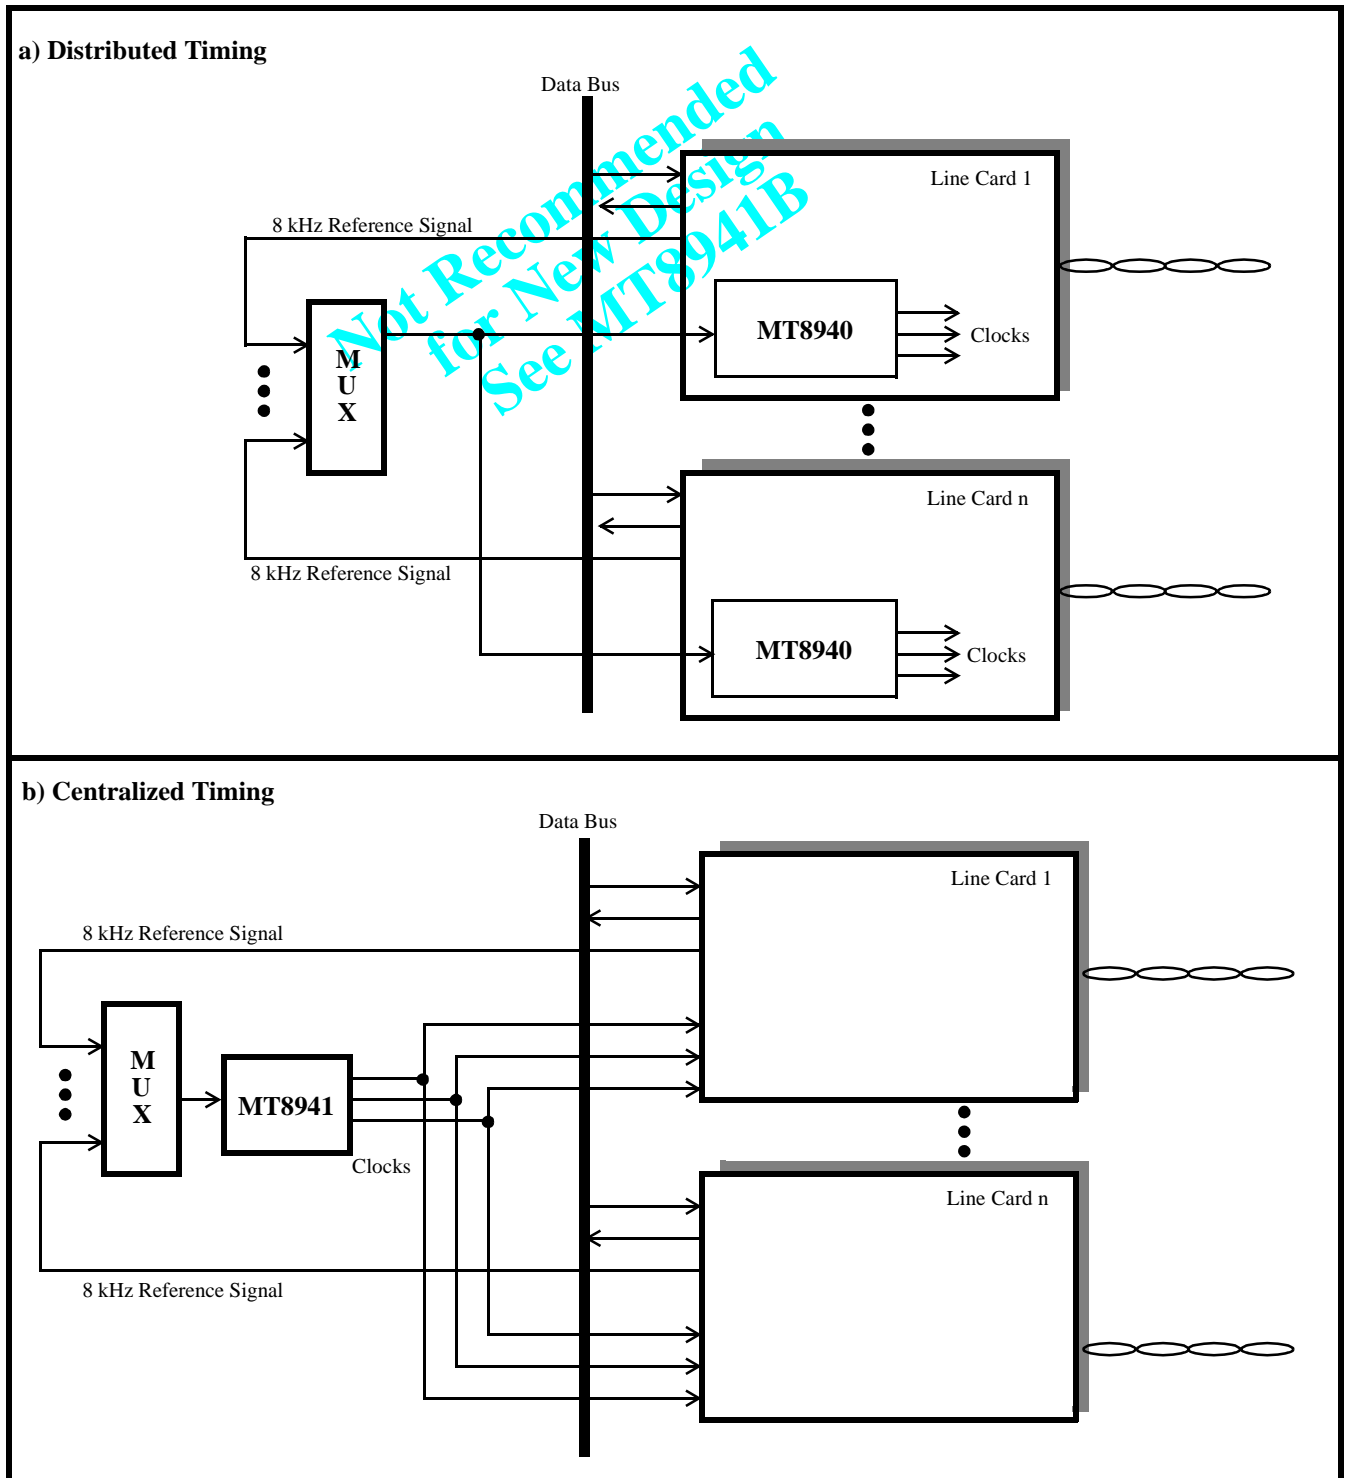

Figure 8 - Application Differences between the MT8940 and MT8941
2. The MT8941 includes a no-correction window to filter out low frequency jitter and wander as illustrated in Figure 4. Consequently, there is no constant phase relationship between reference signal  $\overline{FOi}$  of DPLL #1 or C8Kb of DPLL #2 and the output clocks of DPLL #1 or DPLL #2. Figure 4 shows the new phase relationship between C8Kb and the DPLL #2 output clocks. Figure 8 illustrates an application where the MT8941 cannot replace the MT8940 and suggests an alternative solution.